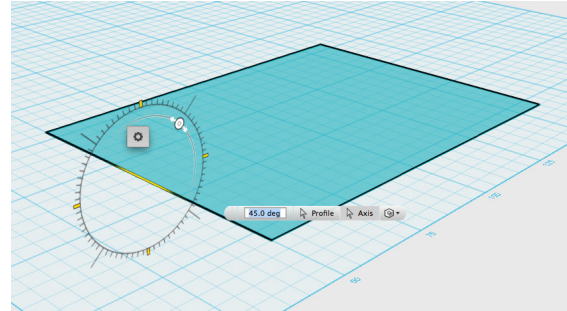

Figure 4-140 Use the dialogue pop up to rotate your object
8. To revolve your sketch into a solid, click and drag on the small circle that pops up on the diameter of the large circle (shown in Figure 4-140). Stop where desired. Hit Enter/Return on your keyboard or simply click anywhere on the grid off from your new object.